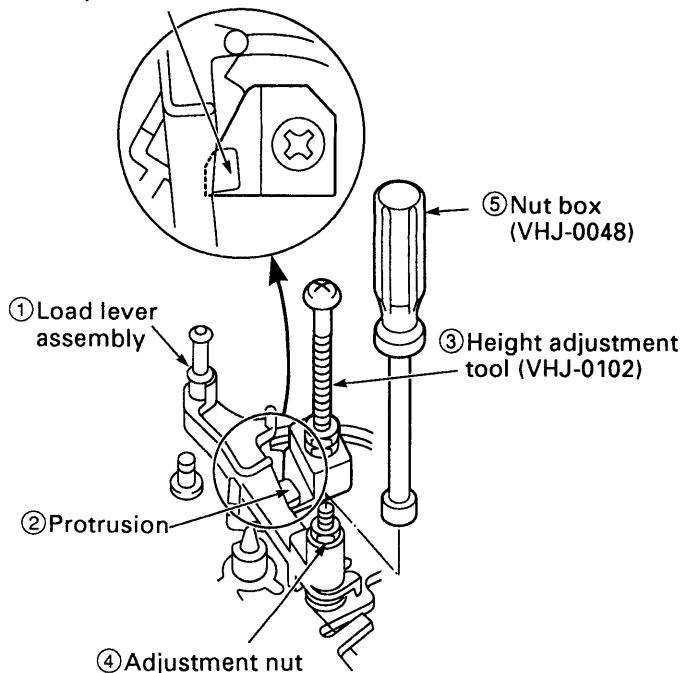

Fig.4-3-2
ADJUSTMENT (See Fig.4-3-2)
2. Position the height adjustment tool (VHJ-0102) ③ under the full surface of the protrusion ② on the load lever assembly ①, as shown in Fig.4-3-2.
3. Using your fingers, gently screw the adjustment nut ④ clockwise into the nut box (VHJ-0048) ⑤ until the protrusion ② of the load lever assembly ① touches the height adjustment tool (VHJ-0102) ③ and the screw starts to feel tight. Next, loosen the adjustment nut ④ by 270° anticlockwise.